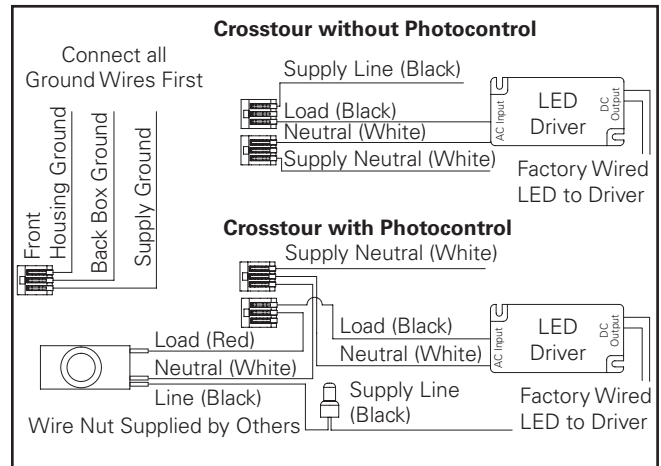
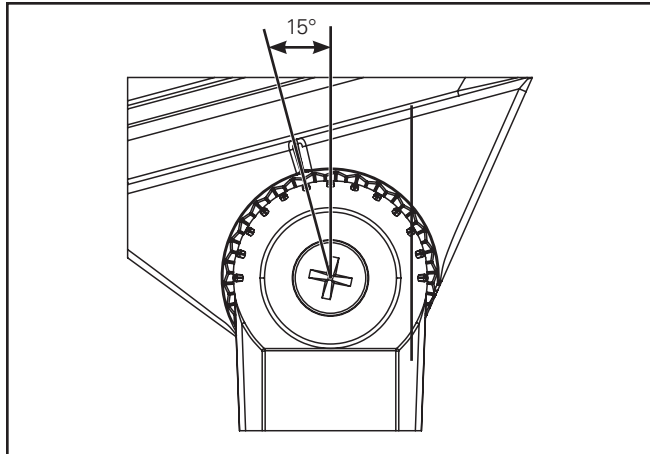

Figure 4.
Figure 5.
5. Make wire connections between the knuckle leads and Crosstour luminaire leads (Figure 4.). Re-attach door to housing tighten/torque to 15-20 in-lbs. Attach optional visor and impact guard. (Figure 5.)